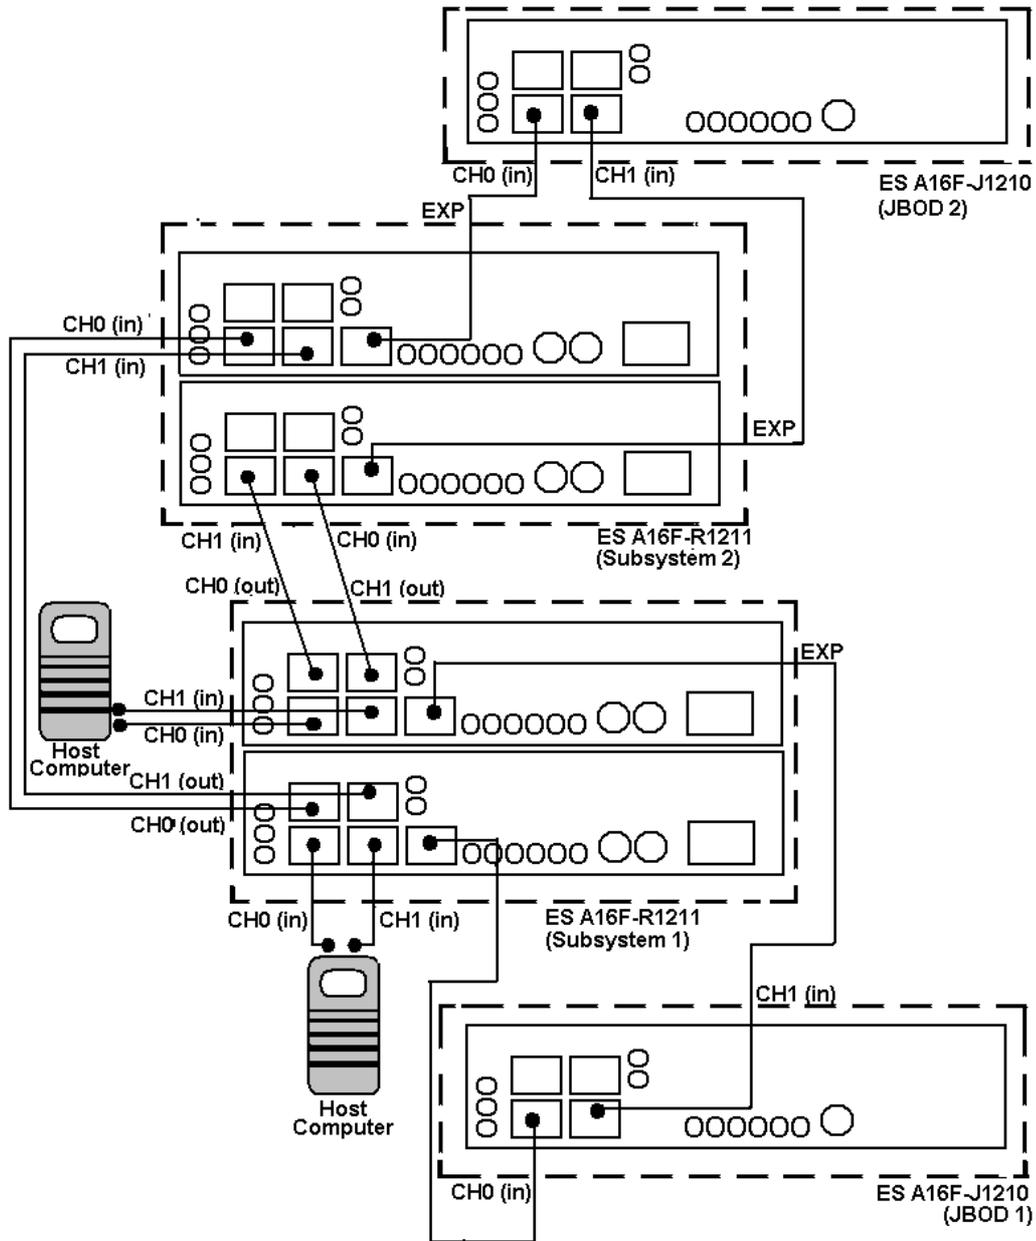

Figure 4- 2: Sample Topology Includes Four Hosts, Two ES A16F-R1211 Subsystems, and Two ES A16F-J1210 JBODs
- ◆ **Labels:** In *Figure 4- 2*, the two (2) subsystems are arbitrarily labeled as *Subsystem 1* and *Subsystem 2*. *Subsystem 1* is the subsystem at the bottom of *Figure 4- 2* and *Subsystem 2* is located directly above. *JBOD 1* (which is connected to *Subsystem 1*) and *JBOD 2* (which is connected to *Subsystem 2*) are arbitrary labels assigned to the two expansion JBODs featured in the example configuration shown in *Figure 4- 2*.